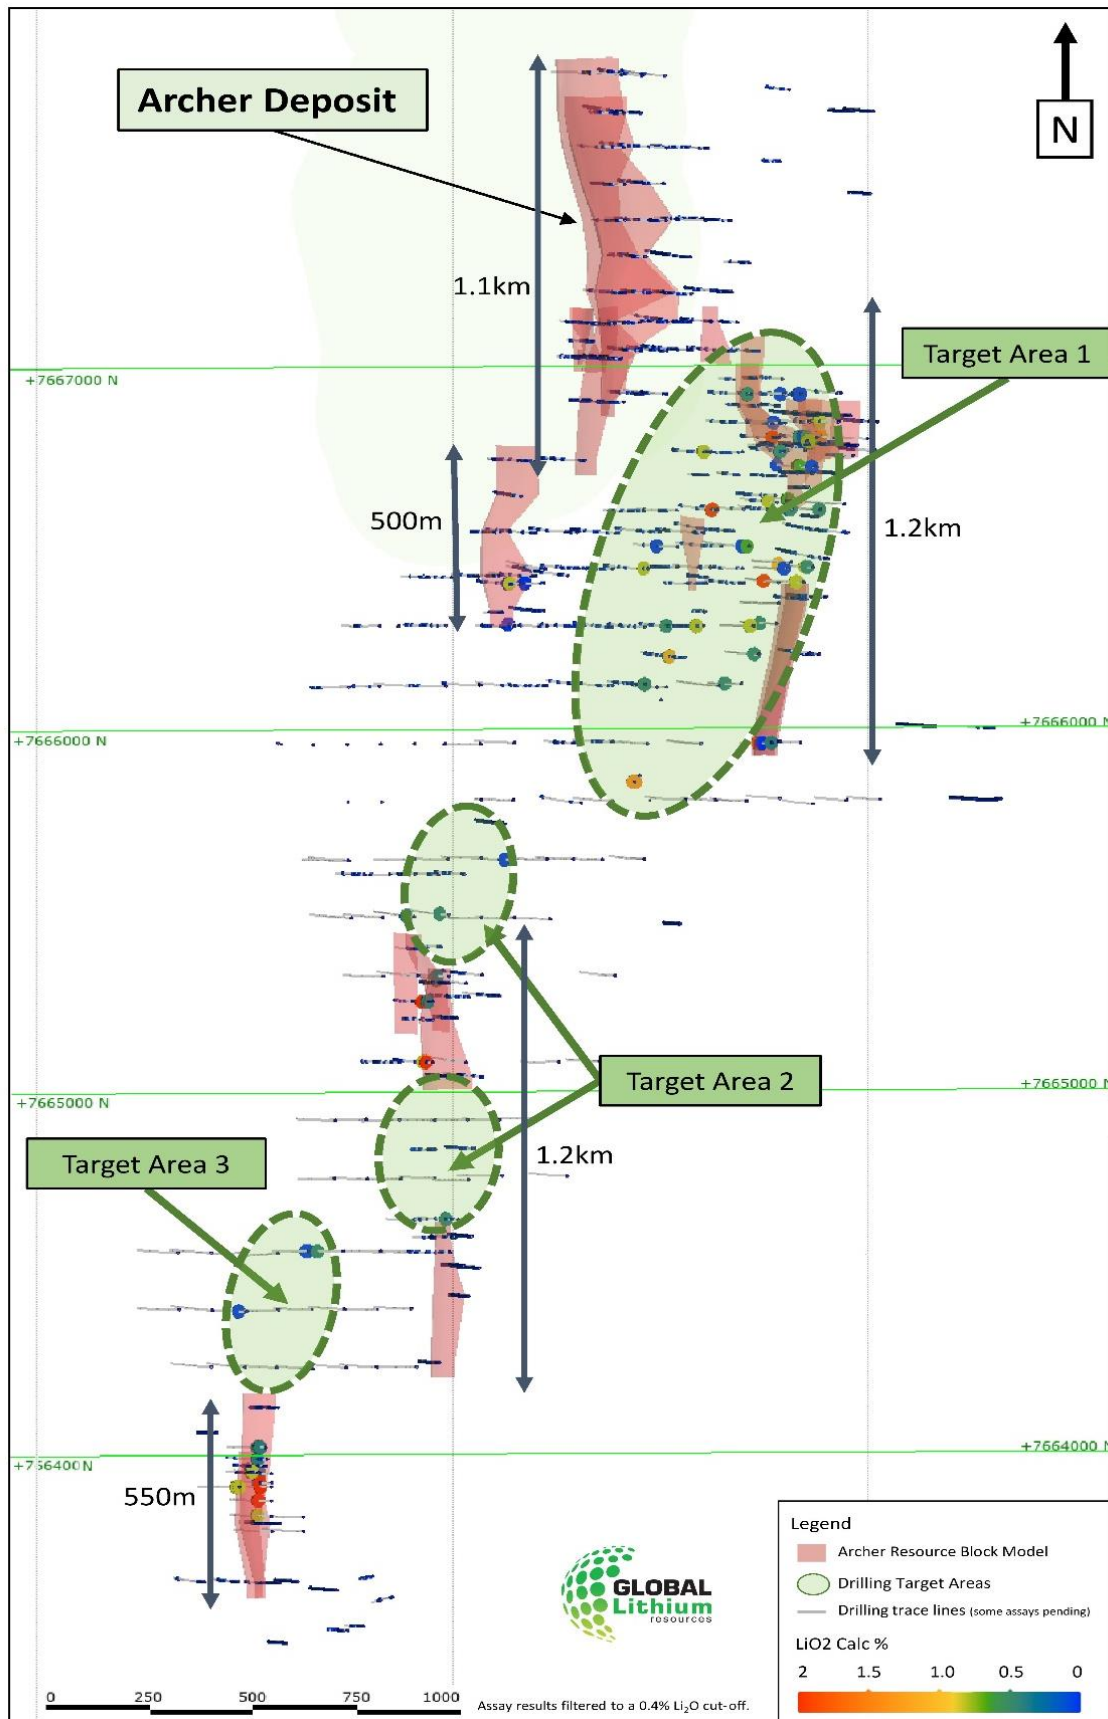

Figure 1 – Pegmatite Exploration Target Areas
- Mapping and soils work has delineated three distinct target areas for further exploration (refer to Figure 1).
The drilling intersection highlights reported above have been recorded from drilling to the south and to the east of the Archer pegmatite resource. The drill target locations with prospective mineralised zones are detailed in Figure 1. The target zones extend over distances from 500m to 1.2km with a majority of the drilling being undertaken on a nominal grid pattern with a line spacing of 160m and a hole spacing of 80m.